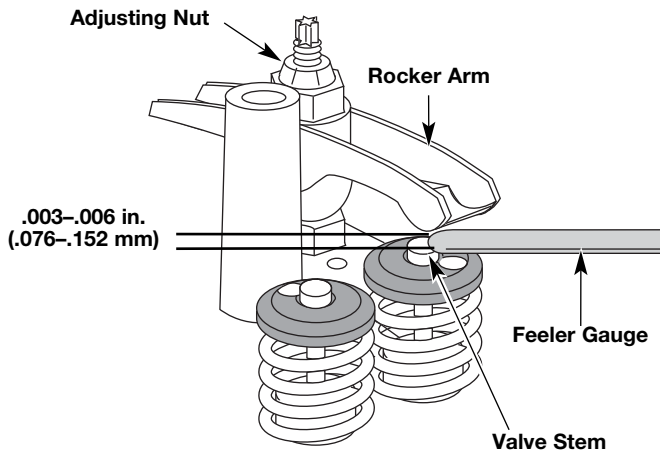

Fig. 37
- a. Turn the adjusting nut using a 5/16 inch (8 mm) wrench or nut driver (Fig. 37).